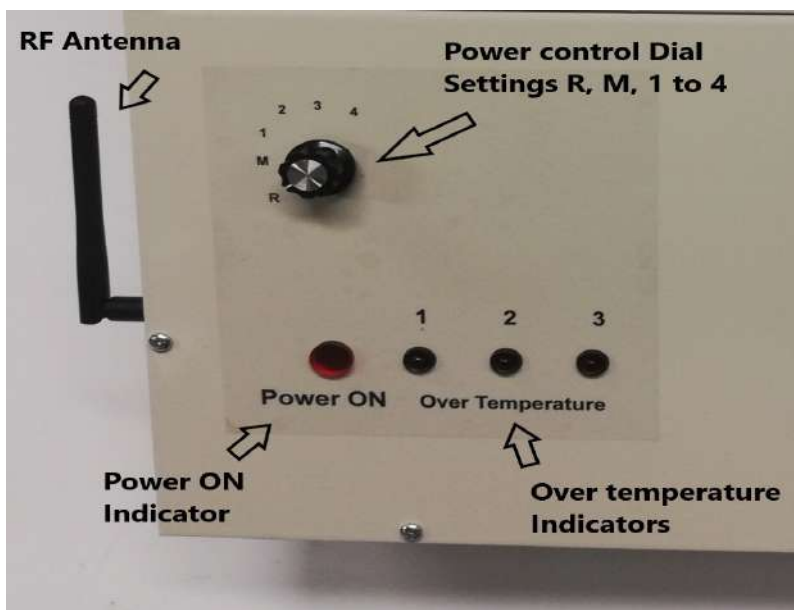

Fig 3
**M = 0%, 1 = 33%, 2 = 50%, 3 = 66%, 4 = 100%** see fig 3.